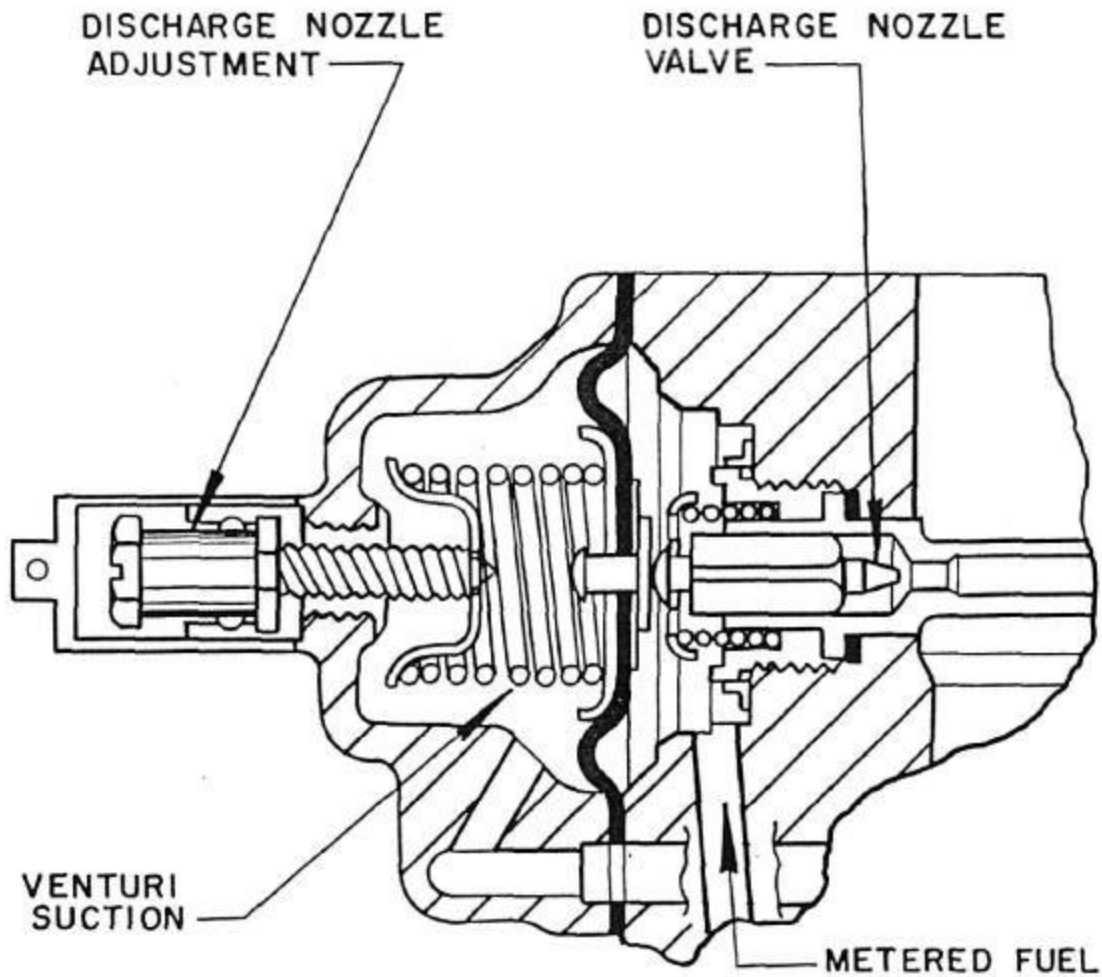

Figure 4. Details of the Discharge Nozzle Assembly
e. After passing through the idle needle and power enrichment valve seat, metered fuel pressure flows to the fuel side of the discharge nozzle diaphragm, see figure 4. This diaphragm controls the discharge nozzle needle valve position. The opposite side of the diaphragm is exposed to venturi suction, and an adjustable spring. When metered fuel pressure on the fuel side of the diaphragm overcomes this spring pressure the needle valve will open and allow fuel to discharge through the nozzle seat and out the discharge nozzle under positive pressure.